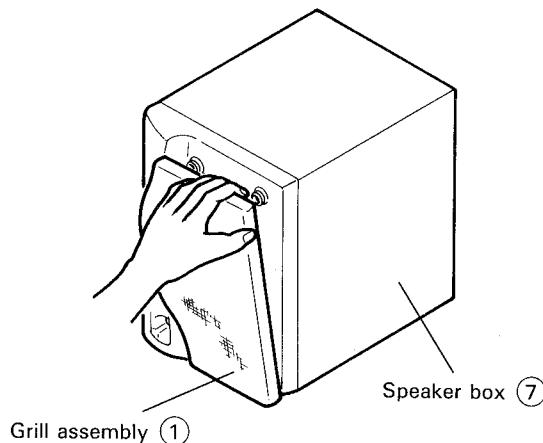

Fig. 7-23
1. Remove the grill assembly (1) by hand (Fig. 7-23)